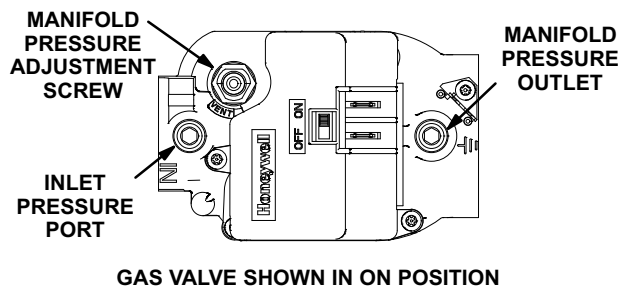
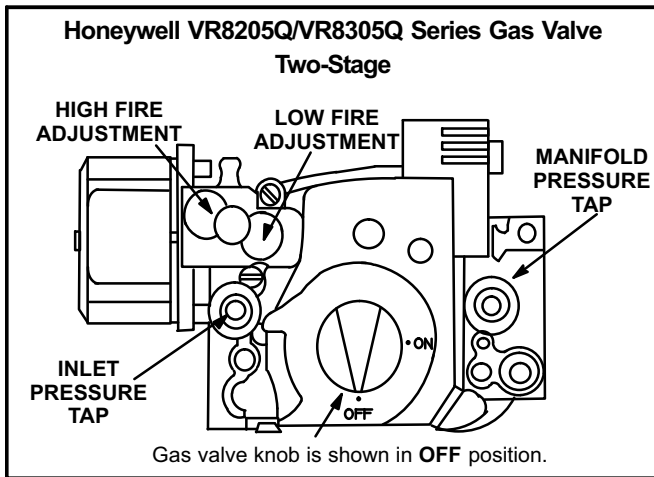

FIGURE 2
FIGURE 3
Gas Valve Operation Honeywell VR8205S (figure 2) and Honeywell VR8205Q (figure 3)
- 5- *Honeywell VR8205S Gas Valve with ON/OFF Lever* - Switch gas valve lever to **OFF**. See figure 2.
Honeywell VR8205Q Gas Valve with Knob - Turn knob on gas valve clockwise  to **OFF**. Do not force. See figure 3.
- 6- Wait five (5) minutes to clear out any gas. If you then smell gas, **STOP!** Immediately call your gas supplier from a neighbor's phone. Follow the gas supplier's instructions. If you do not smell gas, go to the next step.
- 7- *Honeywell VR8205S Gas Valve with ON/OFF Lever* - Switch gas valve lever to **ON**. See figure 2.
Honeywell VR8305Q Gas Valve with Knob - Turn knob on gas valve counterclockwise  to **ON**. Do not force. See figure 3.
Manifold pressures are shown in table 2. Refer to figures 2 and 3 to locate pressure ports.